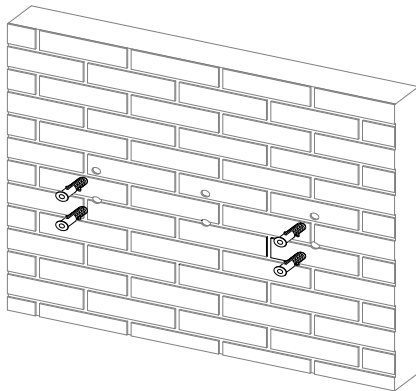
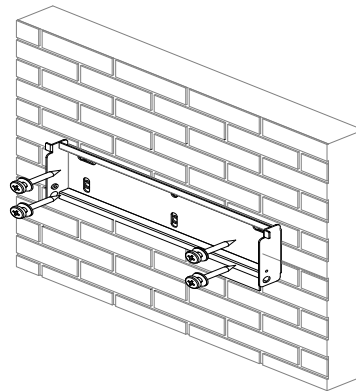

FIG.6-7 Install Expansion Anchors
FIG.6-8 Fix Wall-mounting Bracket
2) Drill expansion anchors into the corresponding four holes, and then secure the bracket by using screws, as per FIG. 6-7 & FIG. 6-8.